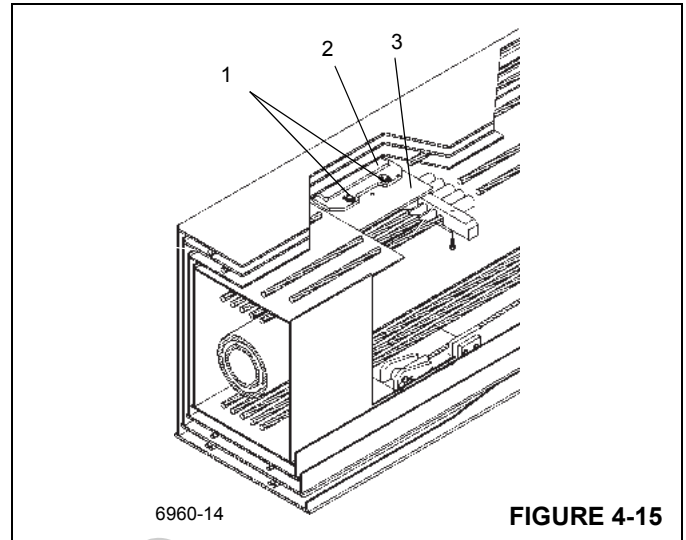

FIGURE 4-15
7. Remove the capscrews washers, and offset washers (1) securing each top rear adjustable wear pad (2). Remove the wear pads and wear pad holder from the top of the fly (3) (Figure 4-15).